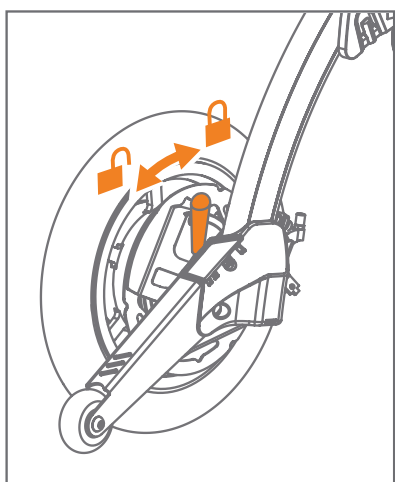

Figure 57: To set into electric assistance mode.
1. Move both levers at the back of the rollator forward (**Figure 57**).